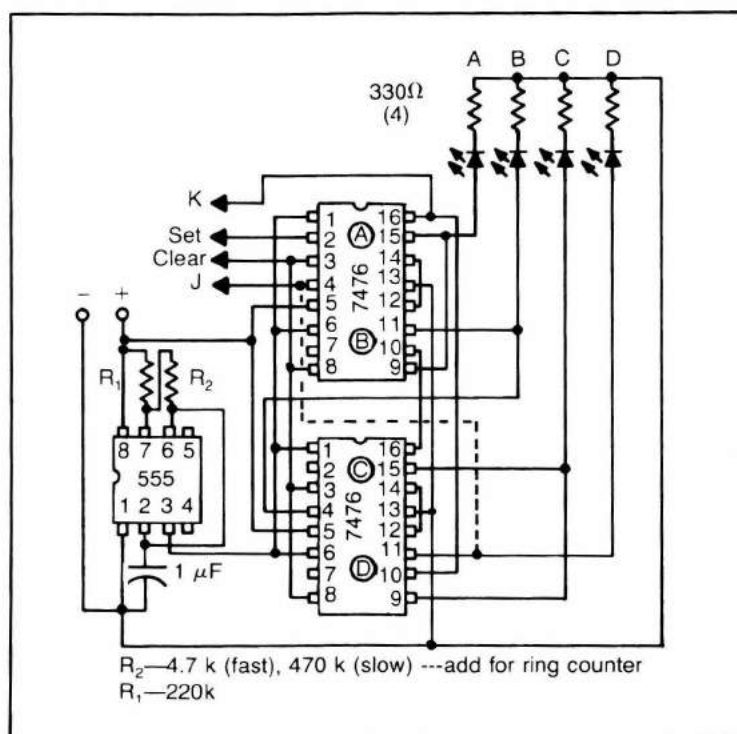

Fig. 16-10. Schematic diagram of shift-register/ring-counter.
Follow these steps to complete this project and experiment. Follow the schematic diagram in Fig. 16-10. Red-line the circuit as the work proceeds.
5. Wire the circuit according to the schematic diagram in Fig. 16-10. It is helpful to red-line each wire and component on the schematic. Do not wire in the dashed line at this time.
10. Momentarily ground the set pin, pin 2, of the top (A) 7476. LED A should light. This indicates that data has been entered.
12. Hook up the wire from pin 11 of the lower 7476 to pin 4 of the upper 7476. See the dashed line in Fig. 16-10. This changes the circuit to a ring counter.